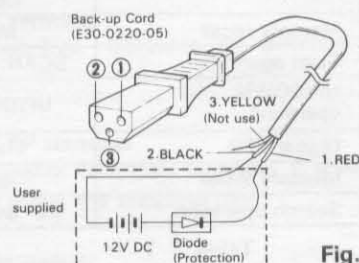

Fig. 3-4
- If you wish to retain the memories even when changing the installation between the car and the fixed station, utilize a back-up cord as shown in Fig. 3-4.